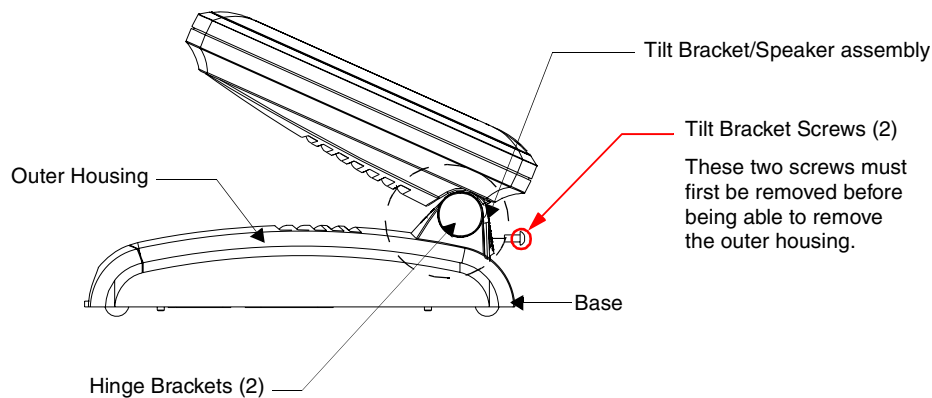

FIG. 17 Location of the Tilt Bracket screws
6. Locate the two screw holes at either sides of the front speaker grill and then use a grounded Phillips-head screwdriver to remove the two Tilt Bracket Screws (FIG. 17). This procedure both loosens the rear Tilt Bracket cover plate (with the AMX logo and Hinge brackets) and provides greater flexibility for the removal of the outer housing. **Without this step, the Hinge brackets (FIG. 17) present an obstacle to the removal of the outer housing and restrict access to the circuit board.**
2. Locate the two screw holes at either sides of the front speaker grill and then use a grounded Phillips-head screwdriver to both insert and secure the two Tilt Bracket Screws (FIG. 17). This procedure resecurers the rear Tilt Bracket cover plate (with the AMX logo and Hinge brackets).